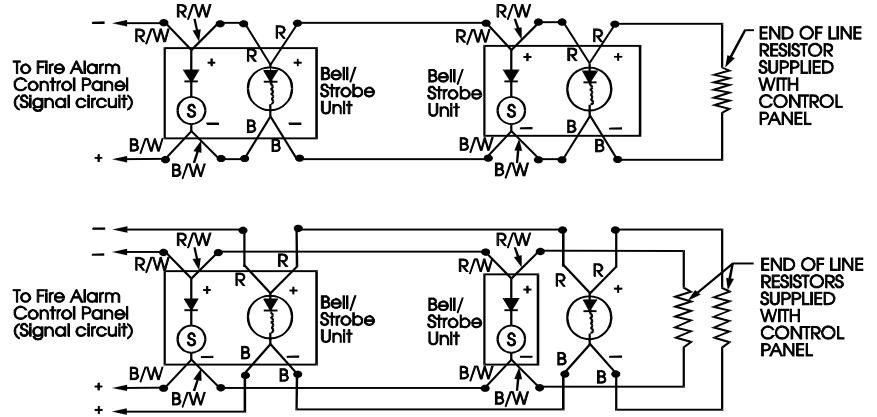

Figure 2. Connecting Strobe Unit
3. See Figure 2 for wiring connections. Use wire nuts (not provided) to connect wires. The strobe must be connected to a signal circuit that outputs a constant voltage. Polarity must be observed for the unit to function properly. Figure 2 details wiring for connecting the bell and strobe to the same circuit or to separate circuits.